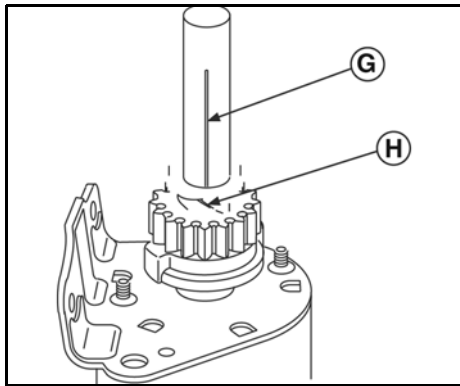
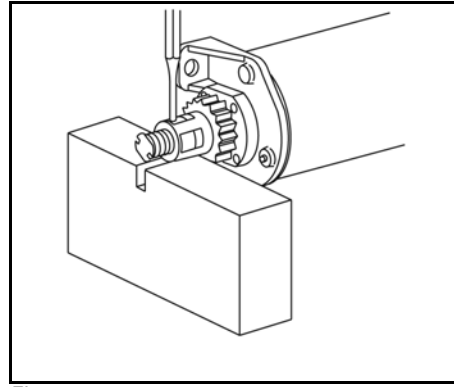

Figure 29
Figure 30
1. Place starter drive retainer on support block (Figure 29) and drive out roll pin (A, Figure 30) with a 5/32" (.4mm) pin punch. Discard roll pin.